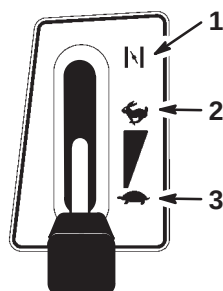

Figure 9
5. Move the throttle lever to "CHOKE" (Fig. 9).
7. After the engine starts, slowly move the throttle lever to “FAST” (Fig. 9). If the engine stalls or hesitates, move the throttle lever back to “CHOKE” for a few seconds. Then move the throttle lever to “FAST.” Repeat this as required.
1. Move the throttle lever to “FAST” (Fig. 9).